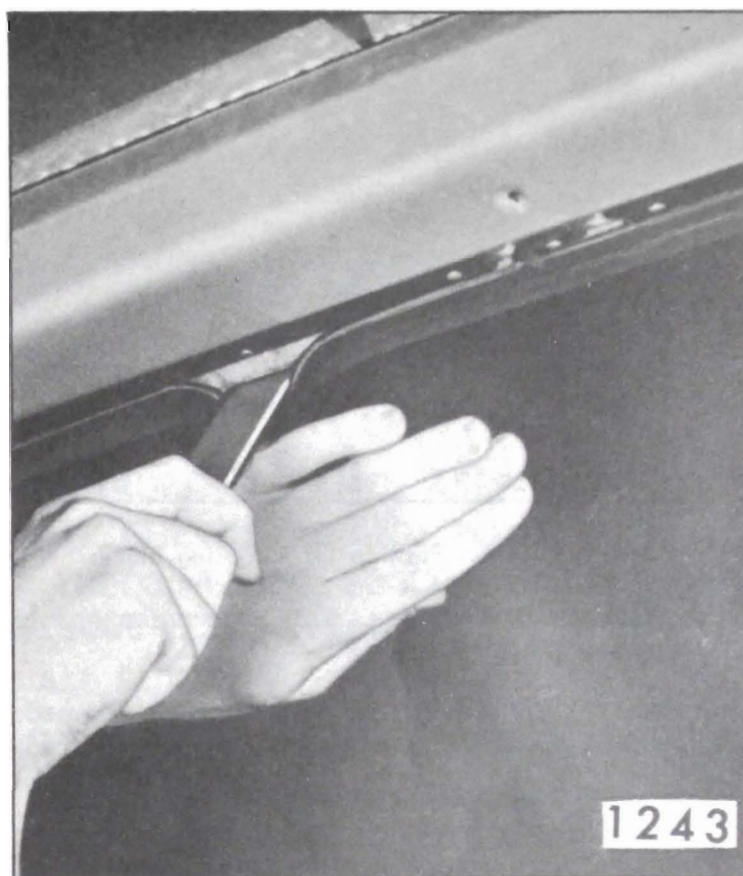

Fig. 3-13—Windshield Glass Removal
4. On inside of body loosen lip of rubber channel from pinchweld flange along top and sides of windshield as follows: With palm of hand, apply pressure to glass near edge (Fig. 3-13). At the same time use a blunt putty knife or other suitable tool and carefully assist rubber channel over pinchweld flange.